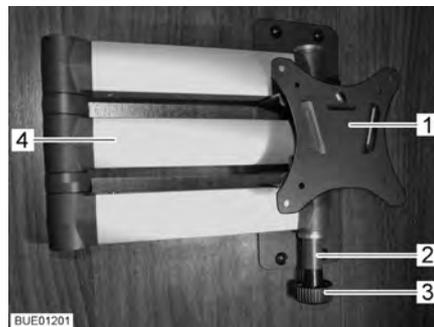

Fig. 53 Holder with jointed arm
- Pull the release knob (Fig. 53,3). The jointed arm (Fig. 53,4) is unlocked.
- Turn the flat screen back into the original position until the holder (Fig. 53,1) engages in the lock (Fig. 53,2).